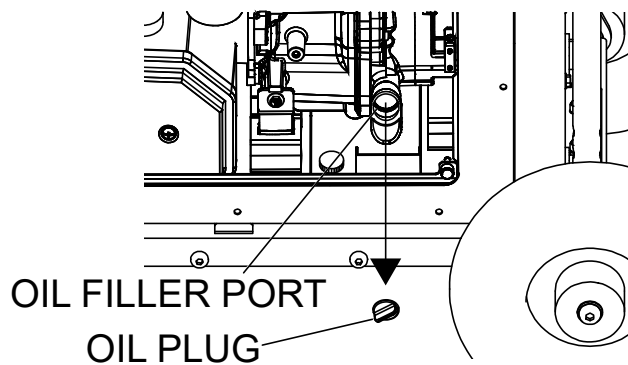

Figure 34. Removing Oil Plug
6. Remove the oil plug (Figure 34).